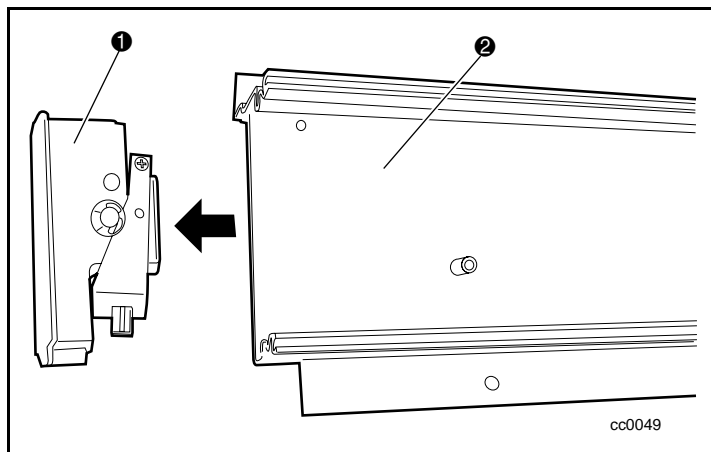

Figure C-30. Removing the bottom pulley assembly
6. Slide the bottom pulley assembly ❶ out of the PTM extrusion ❷ (see Figure C-30).